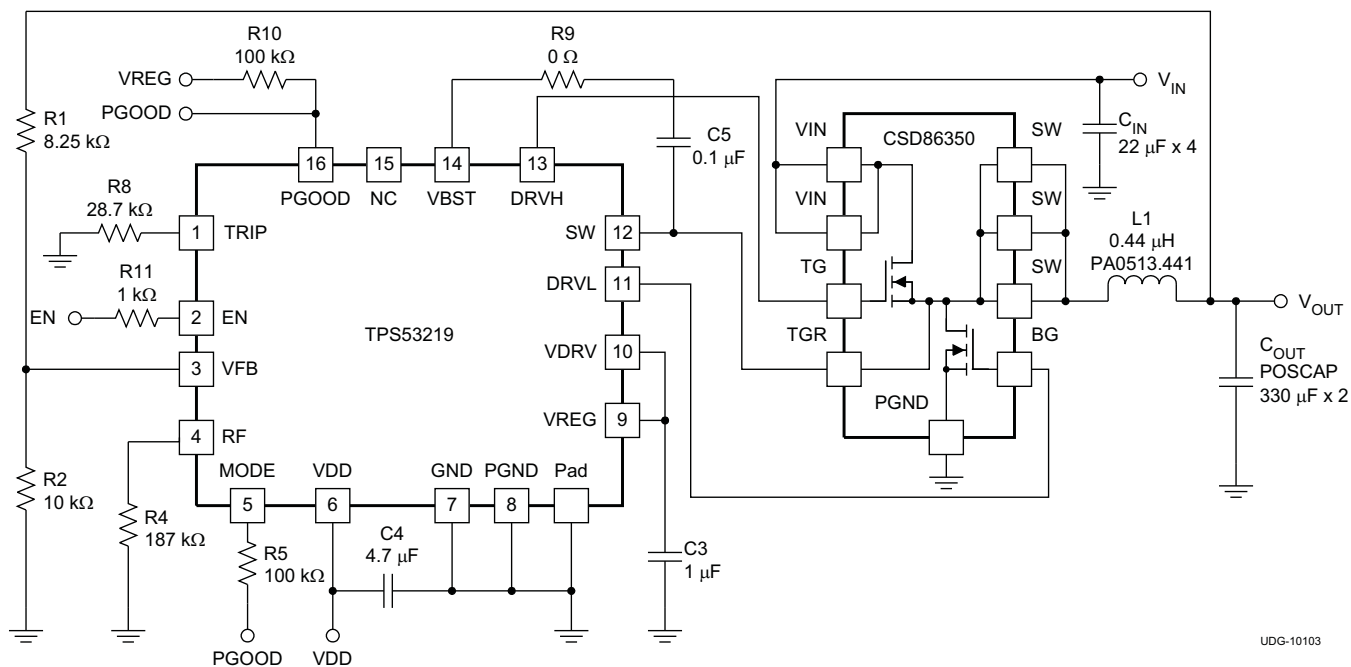
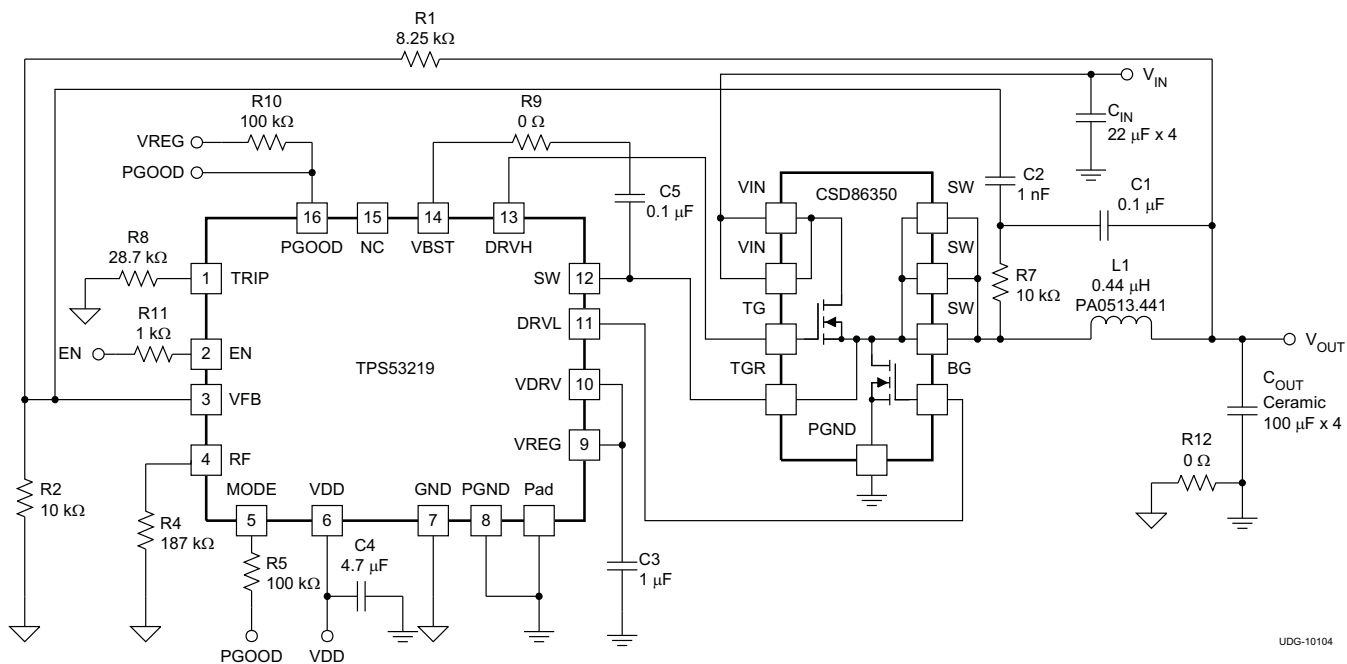

Figure 17. Typical Application Circuit Diagram with Power Block
Figure 18. Typical Application Circuit Diagram with Ceramic Output Capacitors
(1) Not production tested. Test conditions are VIN = 12 V, VOUT = 1.1 V, IOUT = 10 A and using the application circuit shown in Figure 17 and Figure 18.
(2) Ensured by design. Not production tested